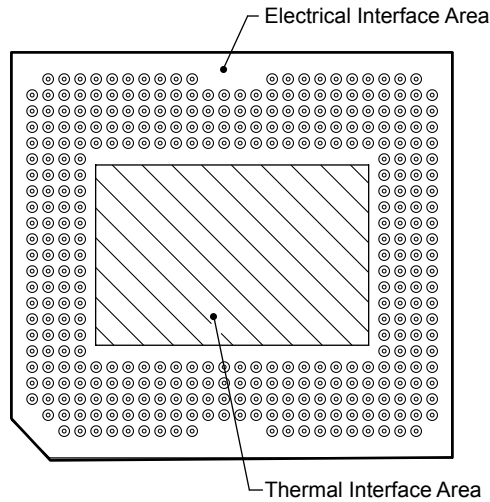

Figure 6-10. System Mounting Interface Loads
- (1) Uniformly distributed within area shown in Figure 6-10